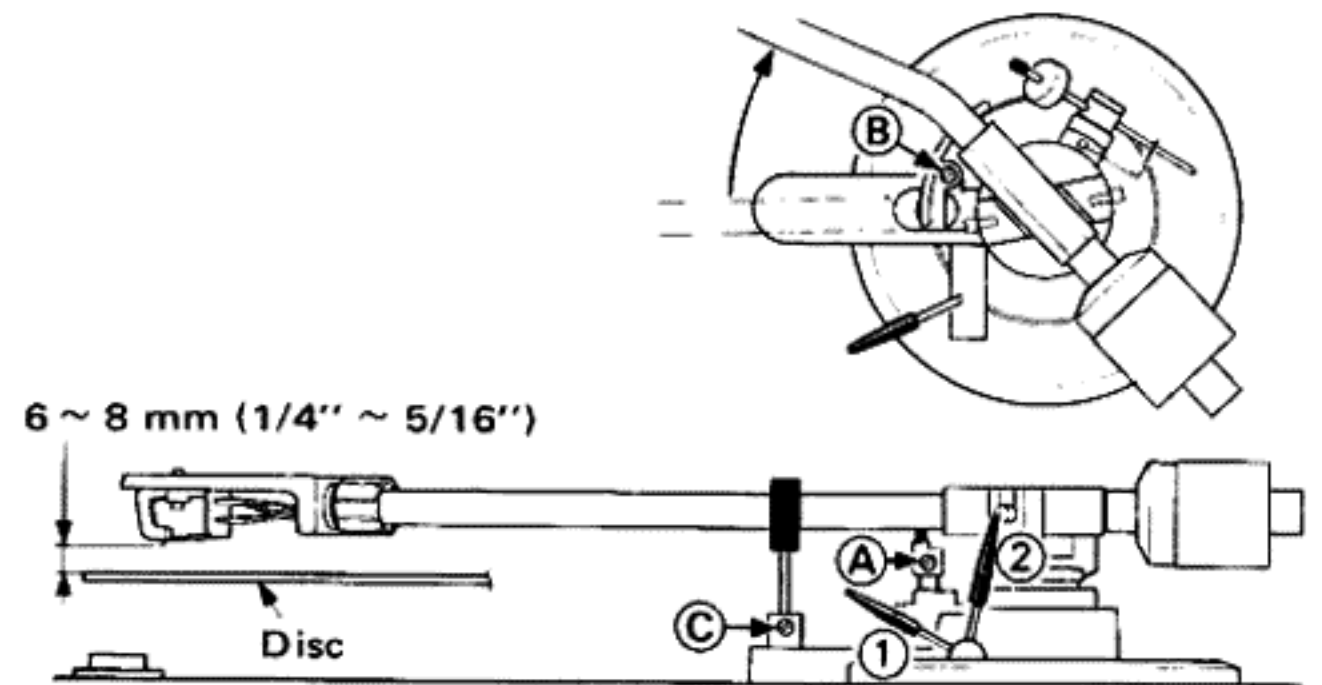

Fig. 17
- Set the cueing lever to  $\nabla$ . Loosen the set screw at A in Fig. 17, and adjust elevator height so that the stylus is 6 ~ 8 mm above the record surface. Tighten set screw A.